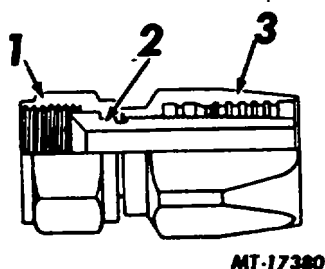

Fig. 1 Flexible Hose Fitting
The fittings used at the ends of the flexible hose are of the swivel type, such as that shown in Fig. 1. The swivel end permits one end of the hose to be disconnected and not disturb the complete hose.
1. Remove the hose fitting and nut from socket and hose. Fig. 1 illustrates the swivel hose fitting. So that the swivel nut and fitting can be removed from the hose and socket assembly, install a pipe adapter in the swivel nut and tighten it, locking the swivel joint assembly (nut and fitting). The swivel nut and fitting can now be turned out of the hose using a wrench.